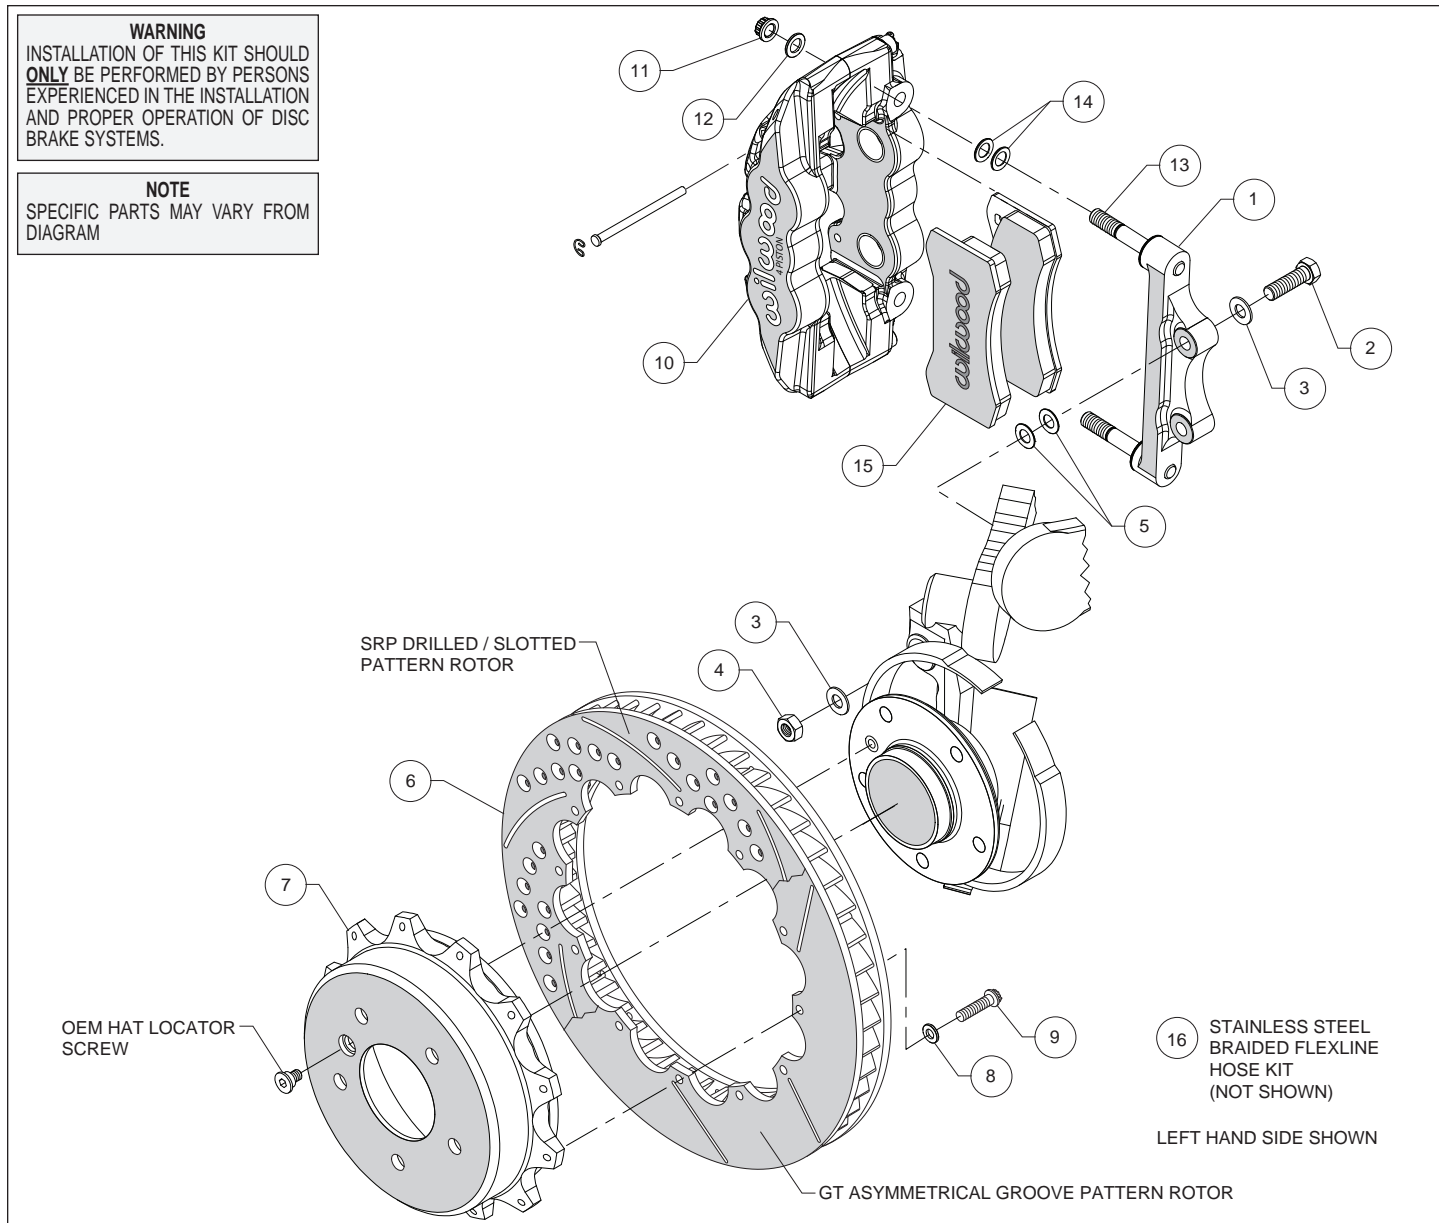

Figure 1. Typical Installation Configuration
**Assembly Instructions** (numbers in parenthesis refer to the parts list and Figure 1 on the preceding pages):
- The caliper mount bracket (1) should initially be installed with clean, dry threads on the mounting bolts. Orient the bracket as shown in Figure 1, and Photo 2, and install using washers (3), bolts (2), and nuts (4). Initially place two .030" thick shims (5) on each bolt between the bracket and upright, Figure 1. Temporarily tighten the mounting bolts. **NOTE:** *The bracket must fit squarely against the mount bosses on the upright.* Inspect for interference from casting irregularities, machining ridges, burrs, etc. Later, after the caliper alignment has been checked, the mount bolts will be secured using red *Loctite*® 271.
- Lubricate the caliper mounting studs (13) with lightweight oil. Initially place two .030" thick shims (14) on each stud as shown in Figure 1 and Photo 4. Mount the caliper (10) onto the bracket (1) using lock nuts (11) and washers (12), Figure 1. Temporarily tighten the lock nuts and view the rotor through the top opening of the caliper. The rotor should be centered in the caliper, Photo 5. If not, adjust by adding or subtracting shims (5) between the bracket and the upright. Always use the same amount of shims on each of the two mounting bolts. Once the caliper alignment is correct, remove the bracket mounting nuts (4) one at a time, apply red *Loctite*® 271 to the threads, and torque to 40 ft-lb.
- Remove the two pad retaining pins from the caliper by carefully popping out the pin retaining clips and sliding out the pins. Insert the brake pads (15) into the caliper from the bottom, Figure 1, and Photo 6, with the friction material facing the rotor and secure the brake pads in place with the pad retaining pins and clips, Photo 7. Reinstall the caliper onto the caliper mounting bracket and temporarily tighten the lock nuts. Check that the top of the brake pad is flush with the outside diameter of the rotor, Photo 8. If not, adjust by adding or subtracting shims (14) between the caliper and the bracket. After the caliper pad height is set, torque the caliper lock nuts (11) to 47 ft-lb.